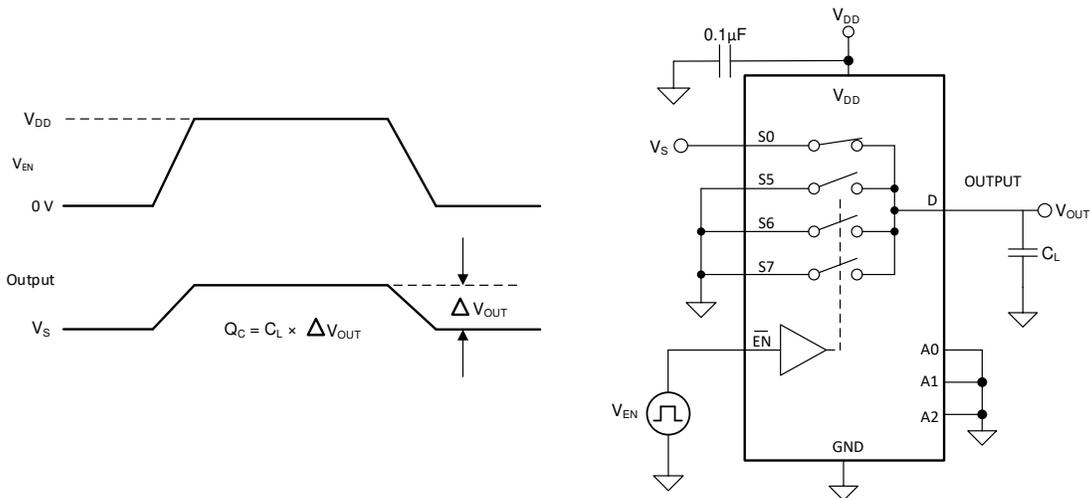

Figure 8-7. Charge-Injection Measurement Setup
The TMUX1308 and TMUX1309 device have a transmission-gate topology. Any mismatch in capacitance between the NMOS and PMOS transistors results in a charge injected into the drain or source during the falling or rising edge of the gate signal. The amount of charge injected into the source or drain of the device is known as charge injection, and is denoted by the symbol Q_C . Figure 8-7 shows the setup used to measure charge injection from source (S_x) to drain (D).